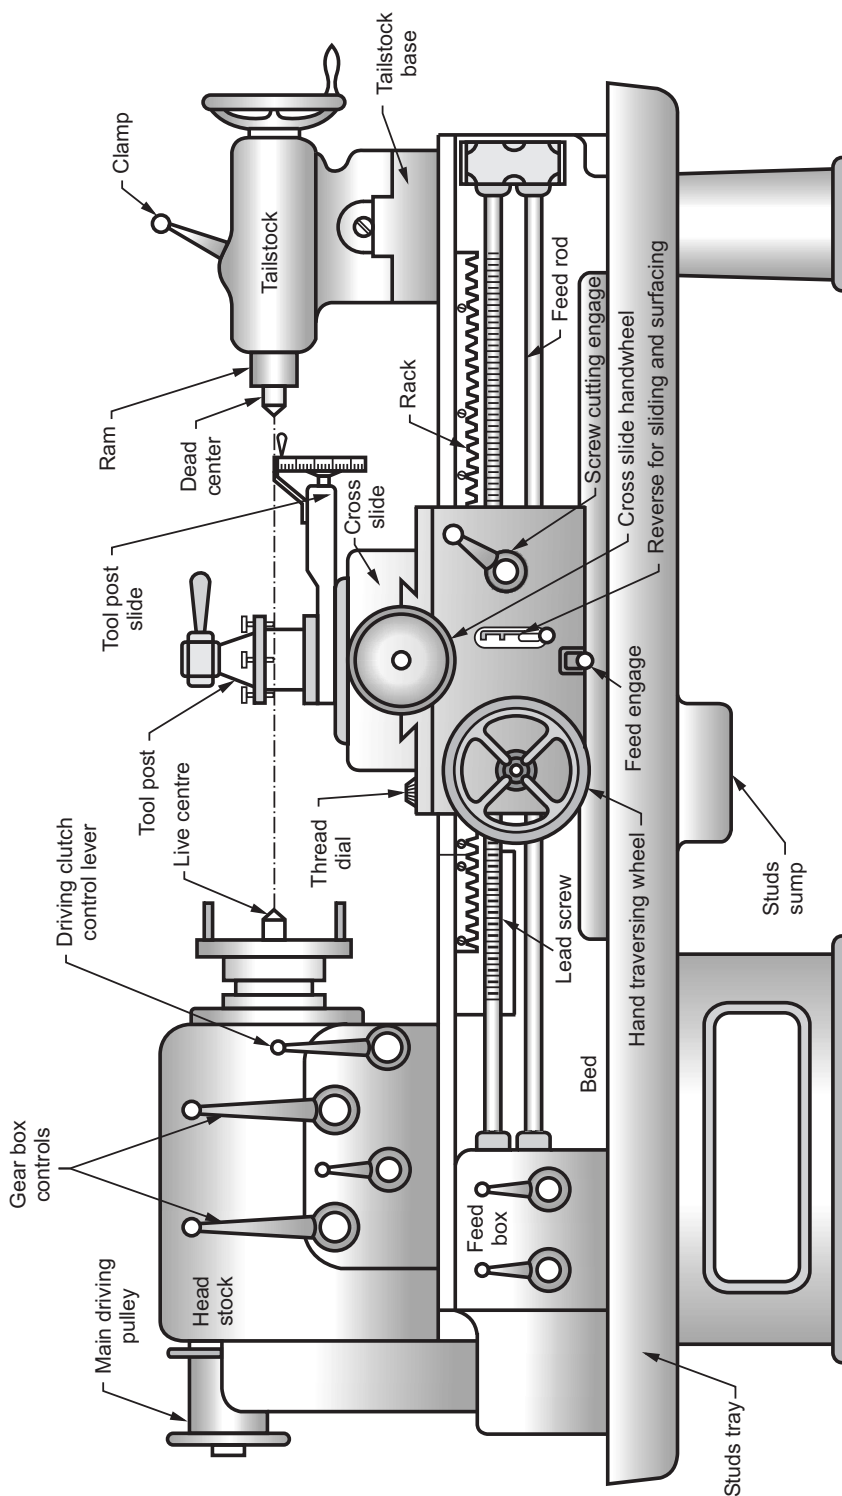

Fig. 5.3 : Lathe machine
- Fig. 5.3 shows the actual lathe machine which consists of following principal parts :